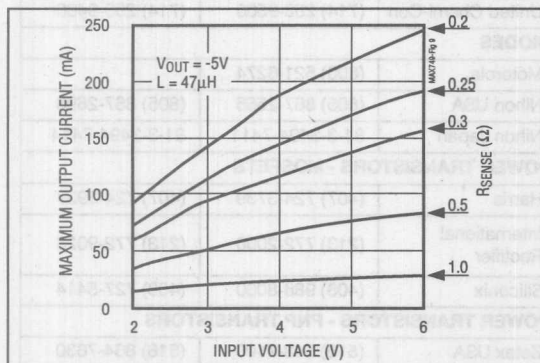

Figure 9a. Maximum Output Current vs. Input Voltage,
To maximize efficiency and reduce the size and cost of the external components, minimize the peak current. However, since the output current is a function of the peak current (Figures 9a-9e), the limit should not be set too low.
2. In Figures 9a-9e, locate the graph drawn for the appropriate output voltage (which is either the desired output voltage or, if that is not shown, the graph for the nearest voltage more negative than the desired output). On this graph find the curve for the highest R_{SENSE} (the lowest current limit) with an output current that is adequate **at the lowest input voltage**.
The theoretical design curves shown in Figures 9a-9e assume the minimum (worst-case) value for the current-limit comparator threshold. Having selected the current-sense resistor, the maximum current limit is given by $180mV/R_{SENSE}$. Use the maximum current-limit figure when choosing the transistor, coil, and diode.